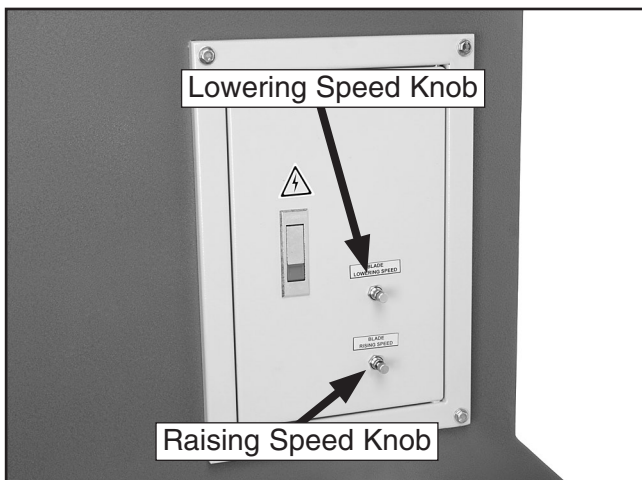

Figure 17. Saw blade lowering and raising speed controls (on right side of machine).
2. Loosen the jam nuts on the blade lowering and raising speed knobs (see **Figure 17**).